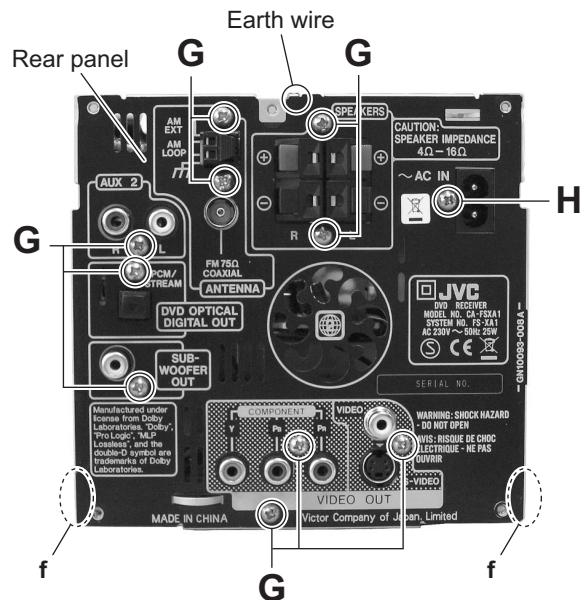

Fig.10
(See Fig.10)
(See Figs.10 and 11)
- (1) From the back side of the main body, remove the screw **H** attaching the rear panel. (See Fig.10.)